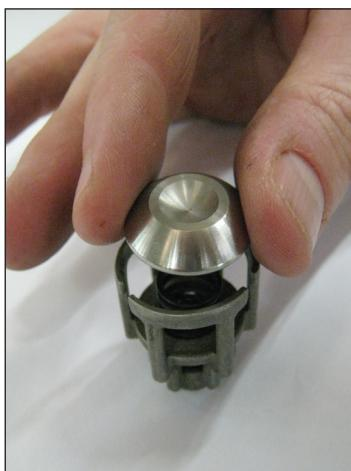
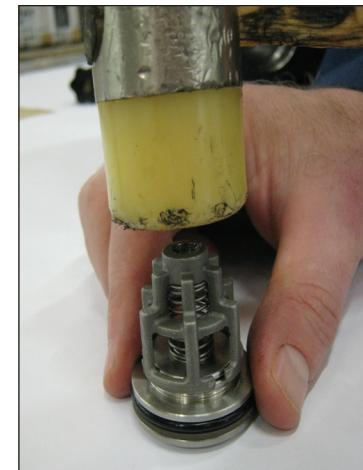

Fig. 24
Fig. 25
- 1 Do not invert the suction springs with the previously disassembled outlet springs during assembly of the suction and outlet valve units (Fig. 24, Fig. 25):**